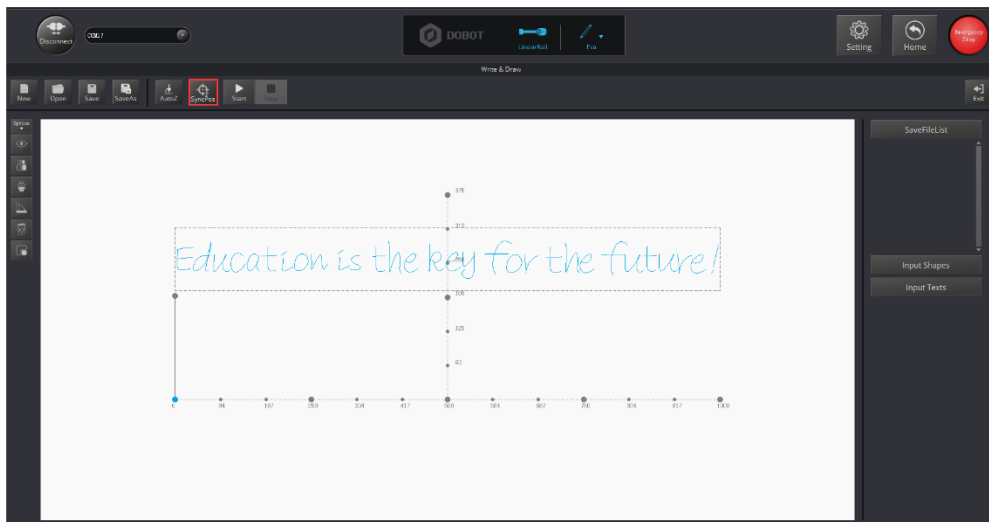

Figure 1.26 SyncPosition
Step 10 Click **SyncPosition** on the **Write&Draw** page, and then the Dobot will move to the initial position. As shown in Figure 1.26.